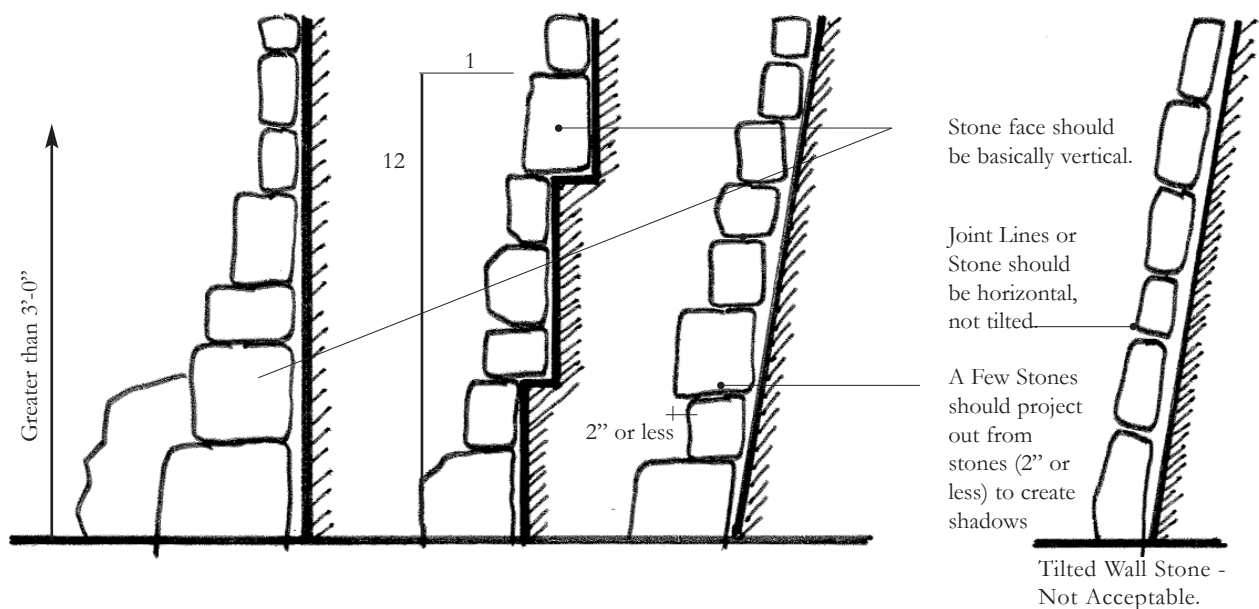

Figure 2.9c - Batter Stacked Rock
- Rock walls 3' and taller are to be battered at 1:12 and incorporate a mix of sizes and shapes with larger stones predominating at lower levels. See Figure 2.9c.